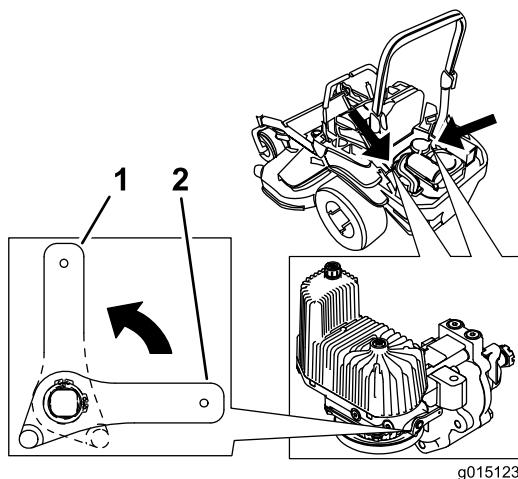

Figure 34
2. Rotate the release-valve levers vertically to push the machine (Figure 34).
4. Rotate the release-valve levers horizontally to run the machine (Figure 34).